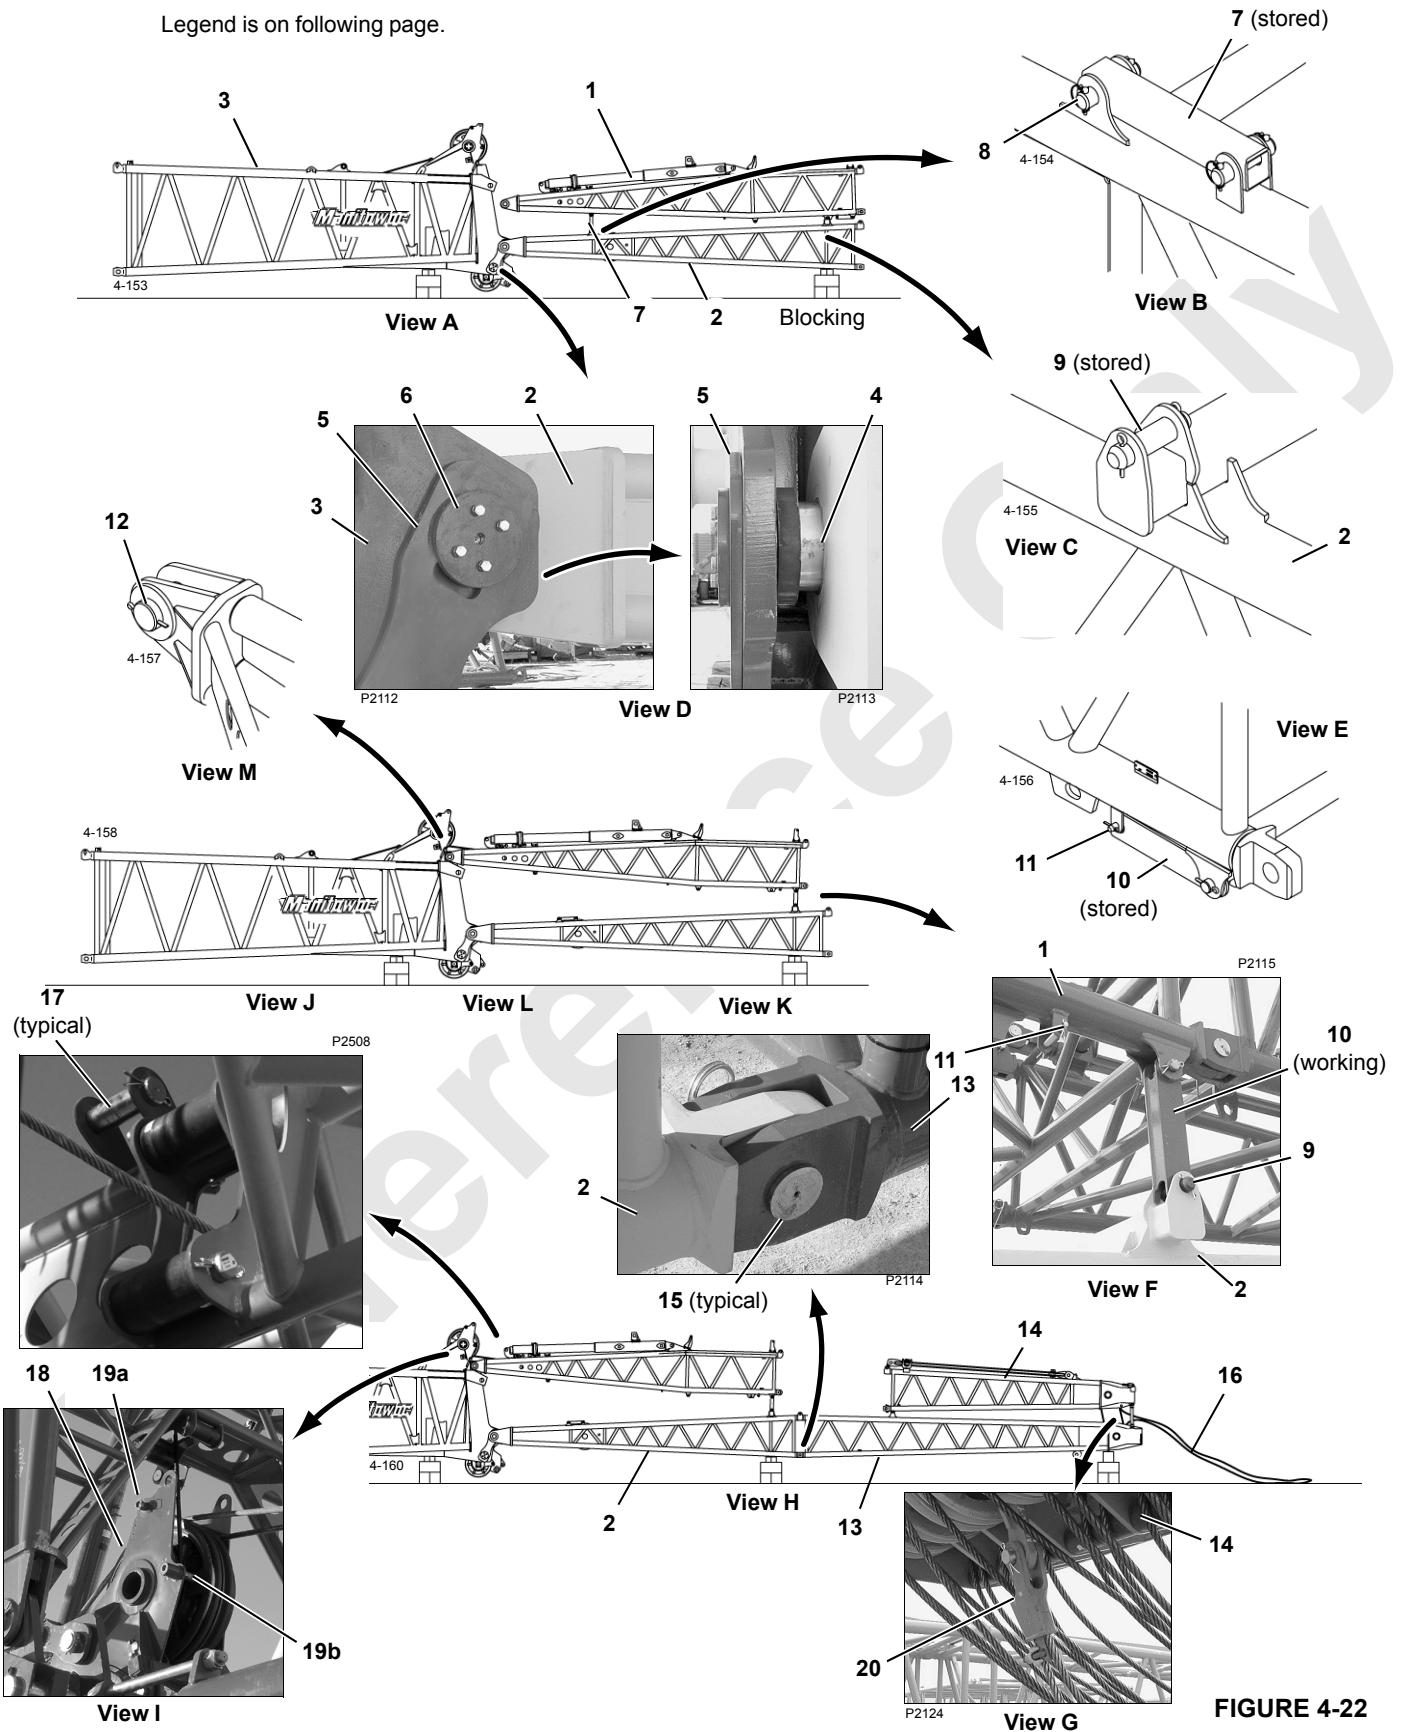

FIGURE 4-22
See Figure 4-22 for the following procedure.
See Figure 4-22 for following procedure.
Shipping jib strut top (13) and main strut top (14) assembled as shown in Figure 4-22, View H allows reeving a sucker line through the luffing sheaves in the strut tops. See Luffing Jib Rigging Drawing for wire rope specifications.
Component Identification for Figure 4-22
Install bottom and top connecting pins (15, Figure 4-22, View K) and safety pins.